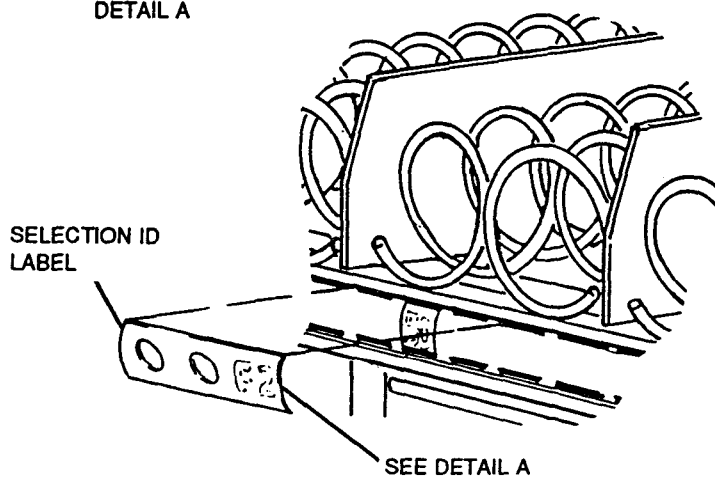

Figure FD-2a
- * Snap the label into position on the front of the Tray. See Figure FD-2a.